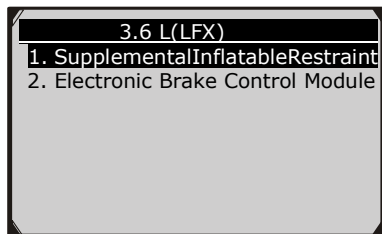

Figure 6.7
- 6) Use the **UP/DOWN** scroll button to select the desired control module from the retrieved engine data menu ( in **GM**'s case, the selected engine model: **3.6 L(LFX)**), and press the **OK** button.(Figure 6.7)